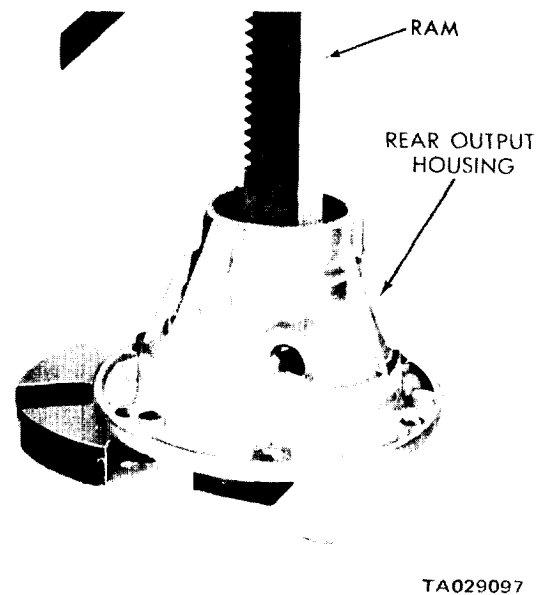

Figure 17-12. Pressing Rear Output Shaft Rear Bearing Out of Retainer.
(1) Remove the speedometer driven gear from the housing.
(2) Remove the yoke nut and washer (if not removed during disassembly). Remove the yoke.
(3) Tap the yoke end of the shaft with a soft hammer and remove the shaft from the housing. Remove the speedometer drive gear from the shaft. If it is not on the shaft, refer to step 5.
(4) Remove six capscrews and separate the rear output housing from the differential housing.
(5) Remove the shim pack from the rear face of the rear bearing. Also, remove the speedometer drive gear from the housing if it was not already removed with the rear output shaft. (Sometimes the shim pack and the speedometer drive gear will stay on the output shaft when it is removed.)
(6) With a screwdriver or other suitable tool, pry the seal out of the housing.
(7) Tap or press the bearing from the output housing (figure 17-12).